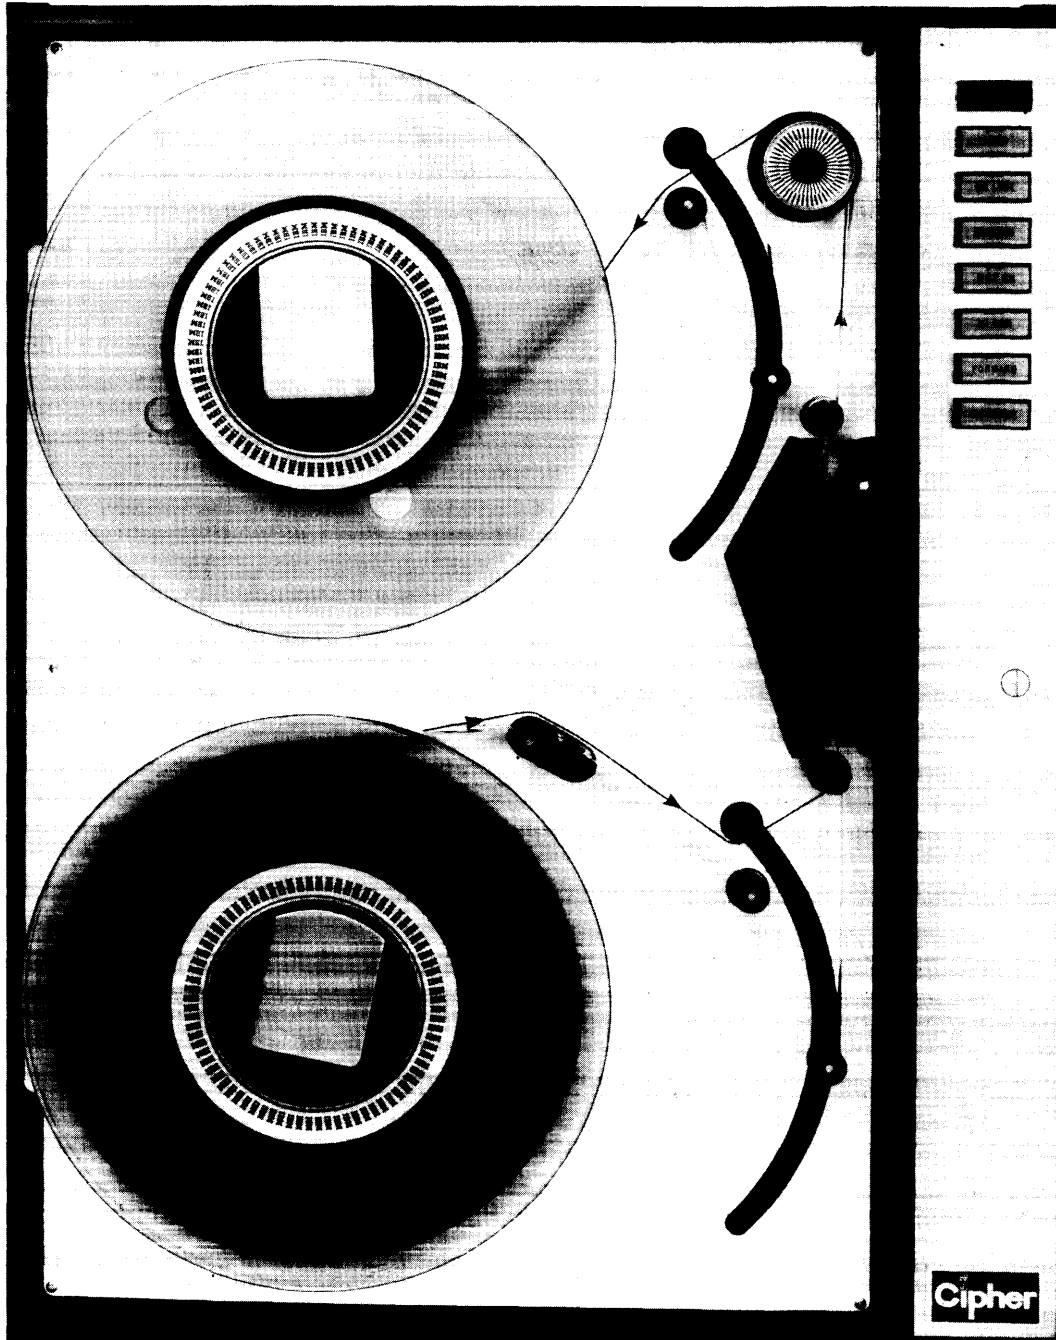

Figure 3-3. Operating Configuration (Tape Tensioned)
- f. Actuate LOAD pushbutton and observe that tape is tensioned. (See Figure 3-3.) Delay at this point is required to allow arm retractor mechanism to clear compliance arms. Actuate LOAD pushbutton again. Tape will advance until BOT tab is positioned at photosensor. LOAD indicator will illuminate, indicating recorder is ready for use.